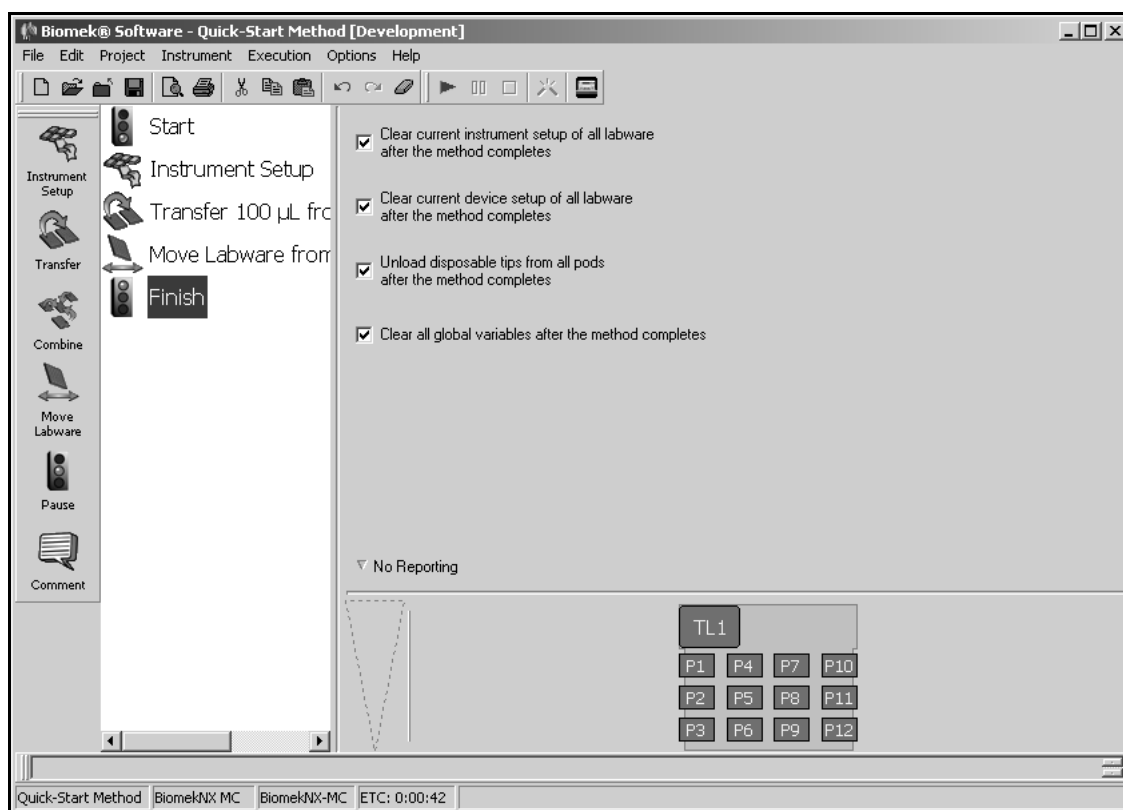

Figure 2-14. Quick-Start method saved and named
2. Enter Quick-Start Method and choose **OK**. The method editor now looks like Figure 2-14.